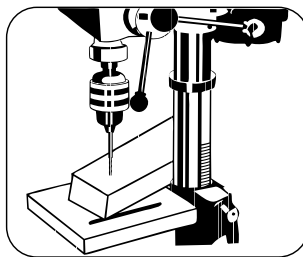

FIGURE 8.19
- The wood must be in contact with the left side of the column (Figure 8.19).